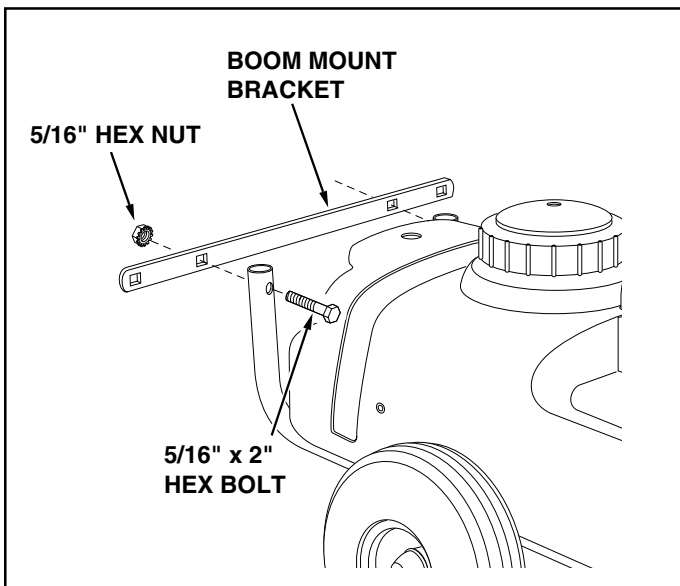

FIGURE 5
- Assemble the boom mount bracket to the rear of the hitch tubes using two 5/16" x 2" hex bolts and 5/16" hex nuts. See figure 5.